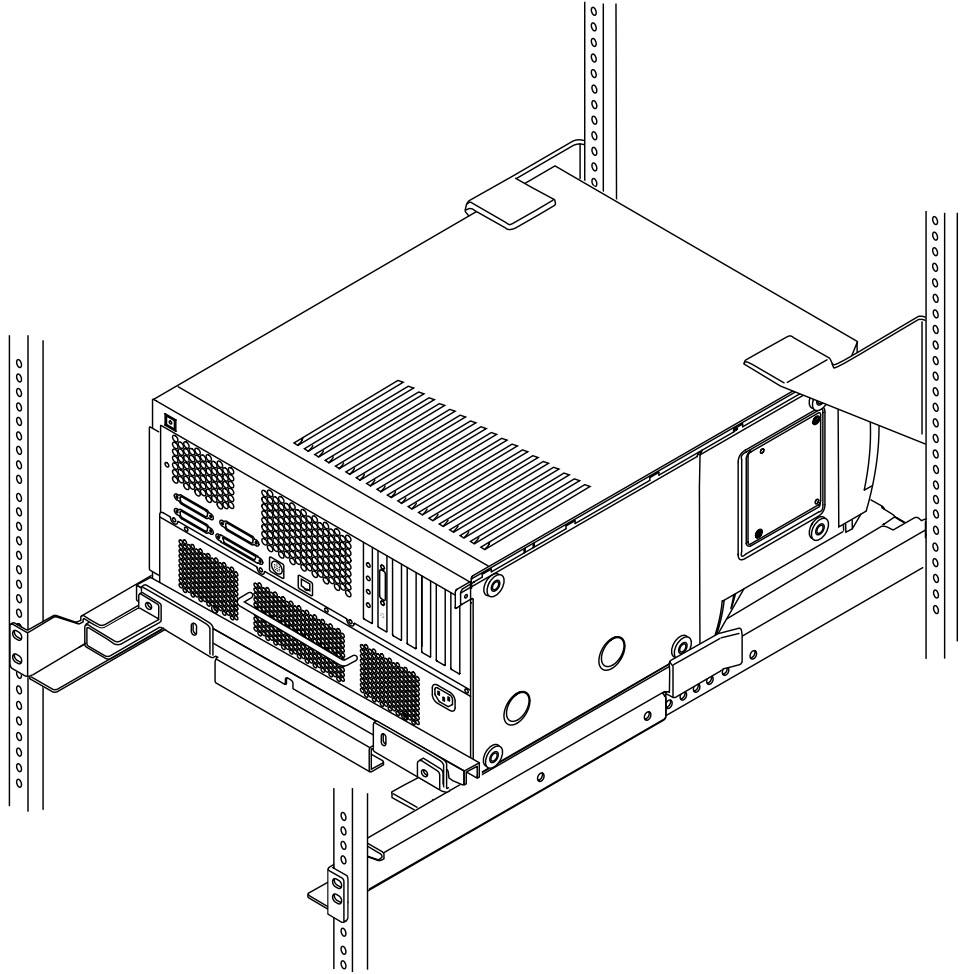

FIGURE 13 System Installed and Ready for Cabling
9. Connect power and cables as needed (FIGURE 13).